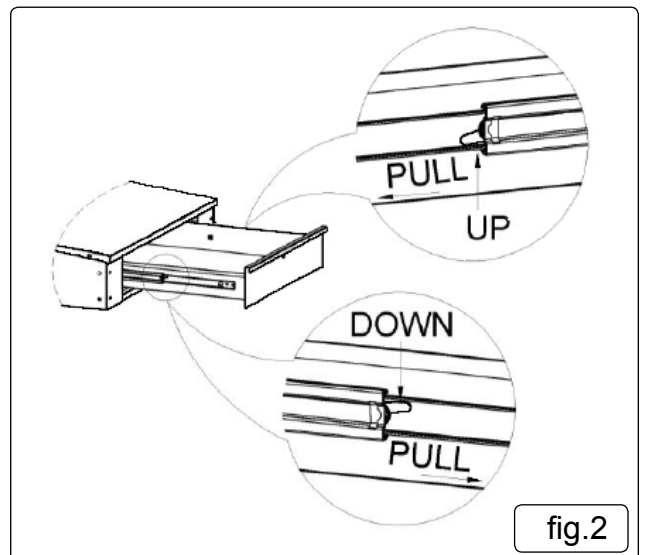

fig.2
- 4.3. Press the plastic latches of both sides at the same time fig.2, pull out the drawer.